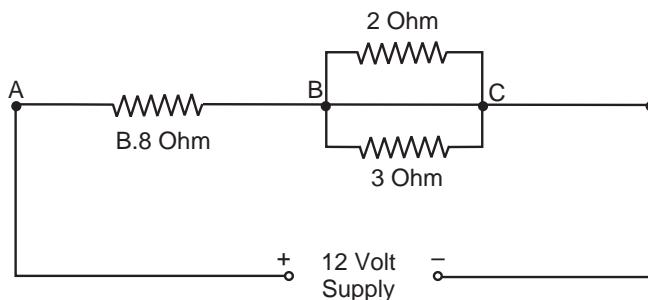

Fig. 5.12
2. With reference to Figure 5.12, calculate the following values: